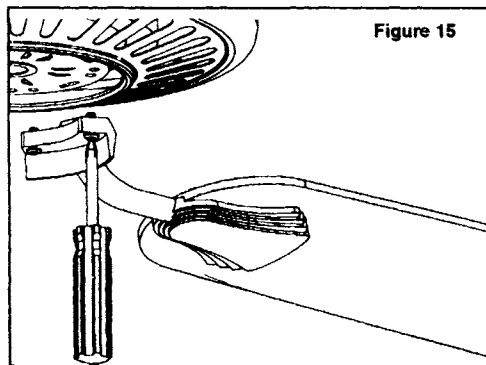

Figure 15
3. Fasten the blade assembly to the motor by inserting the alignment post into the slot on the bottom of the motor and tightening the motor screws. Please note that the motor screws are pre-attached into the blade brackets. (Figure 15)